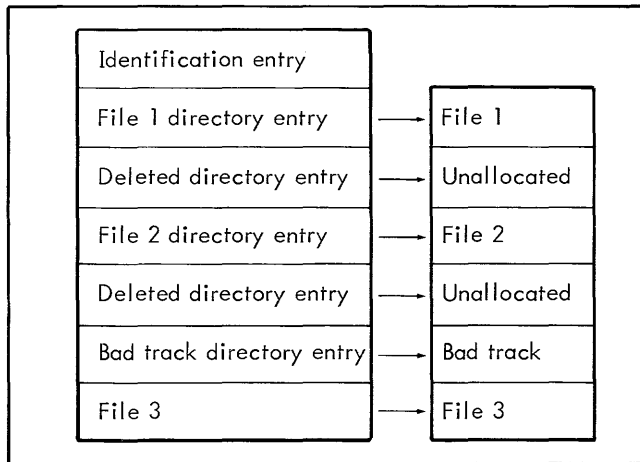

Figure 10. Permanent RAD Area Before Squeezing
3. When all available space in an area is exhausted, a complete search of the file directory is made for unallocated areas made available through file deletions. The smallest area containing a sufficient amount of space to allocate for the file is selected. If sufficient space is not found upon searching the directory, the operation is aborted. To overcome this problem, RAD squeezing may be requested to recover the unused storage within a permanent RAD area by compressing the directory entries and files (see Figures 10 and 11).